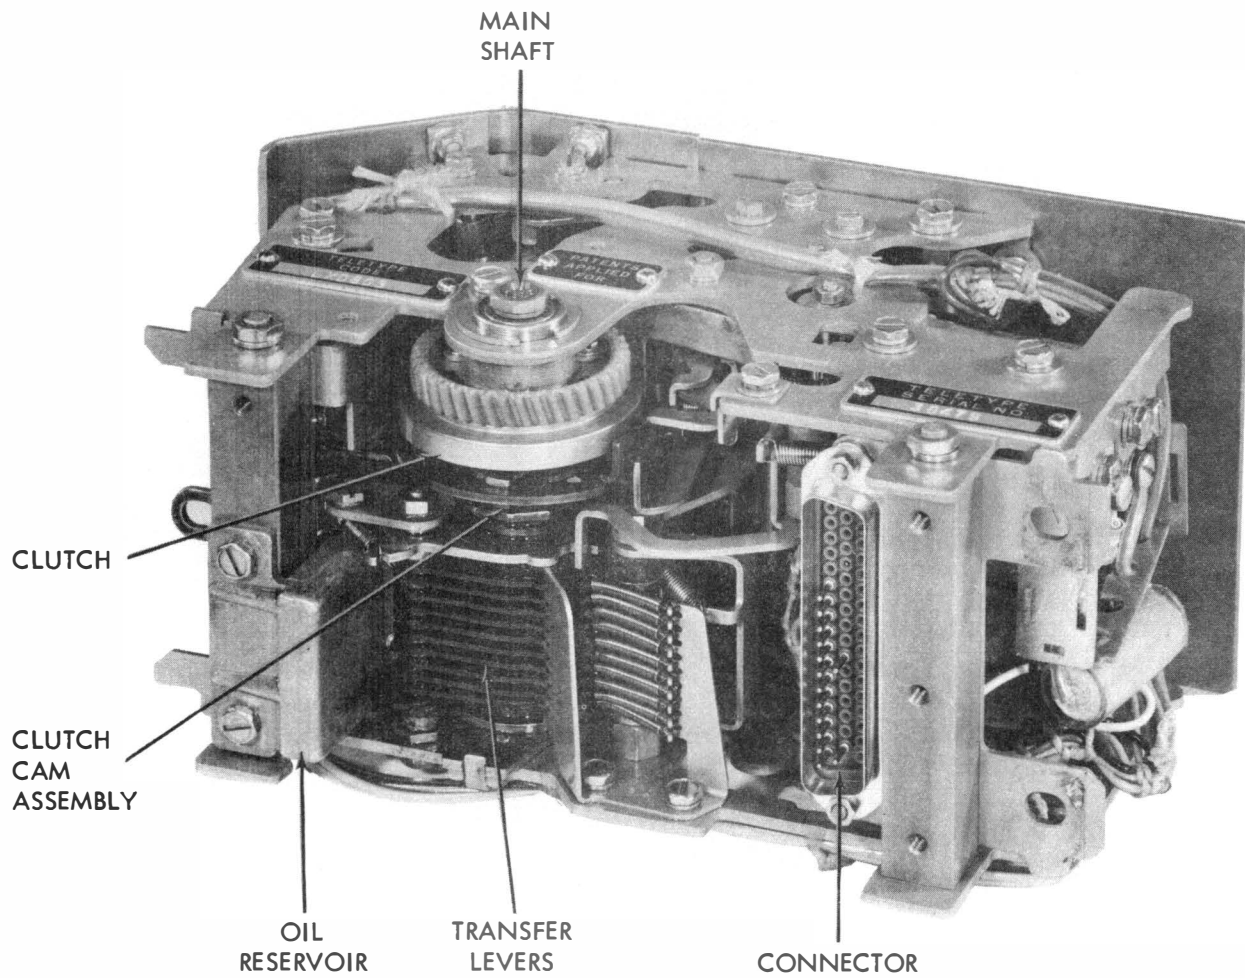

Figure 3 - 35 Transmitter Distributor, Bottom View
tical plates (front, center, and rear) which are separated a fixed distance by spacers or tie bars. The cam shaft is located in the lower right section of the unit with the outer race of each ball bearing clamped to the respective front and rear plate. Motive power to the shaft is controlled by the clutch located on the rear end of the shaft and the clutch trip magnet assembly attached to the rear plate. See Figure 3. As the clutch trip magnet is energized, the clutch mechanism is allowed to engage the outer drum that is rotating continuously, transmitting its motion to the cam shaft. The top of the unit is enclosed by three formed plates -- the tape guide plate, the top plate and the cover plate. With tape in the transmitter distributor, movement of the start-stop lever to the right oper-
- 1.14 A quick disconnect connect plug which aligns with its mate on the base and facilitates making electrical connections as well as simplifying handling during servicing. Figure 3.